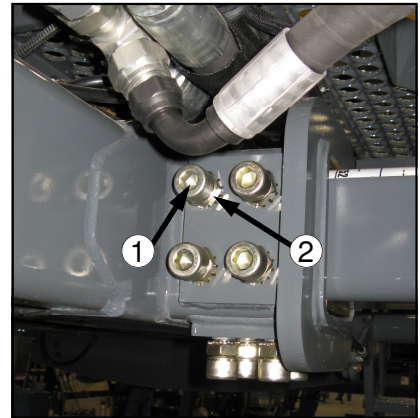

FIG 128-1
HYDRAULIC TREAD ADJUST UNITS– With the engine turned off, visually inspect the tread bearing bolts on both the bottom and side tread adjust bearing plates (fig. 128-1) every 50 hours. Torque check them every 100 hours.
1. Loosen the jam nut (fig. 128-1, item 2) on each tread adjust bearing bolt.